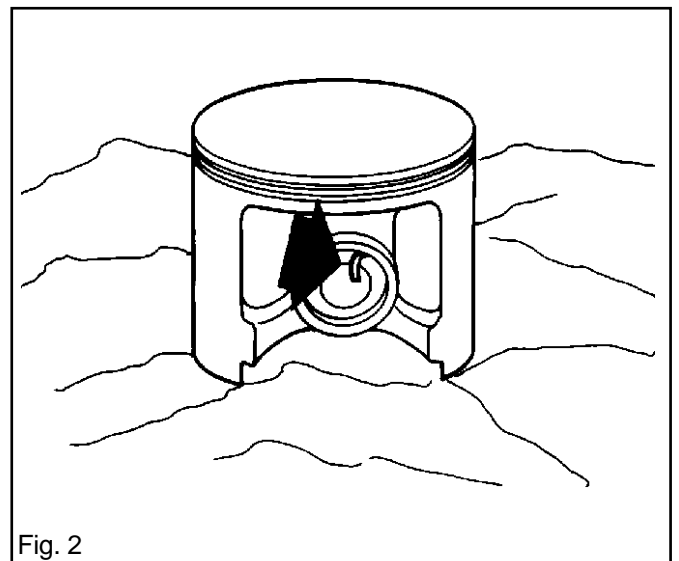

Fig. 2
6. Cover the crankcase opening immediately with paper or clean rag. See fig. 2.
7. Remove one of the piston circlips, press out the gudgeon pin and remove the piston. See fig. 2.